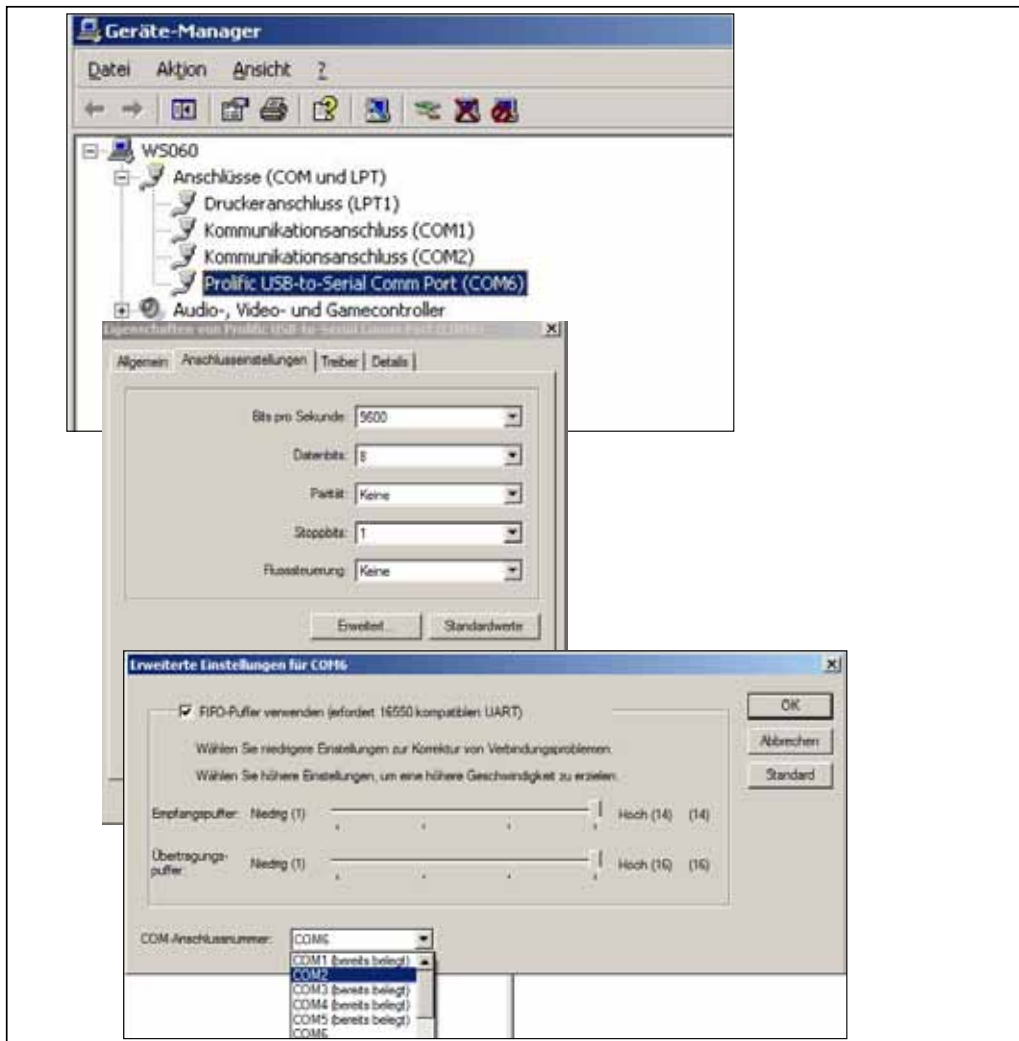

Fig. 12.2: Connection settings in the Device Manager
- ▶ Please open the Device Manager (System Control >> Device Manager) and double-click on the directory “connections”. The connection numbers can be found in section “Prolific USB-to-Serial Comm Port” (in Fig. 12.2 “COM6”).